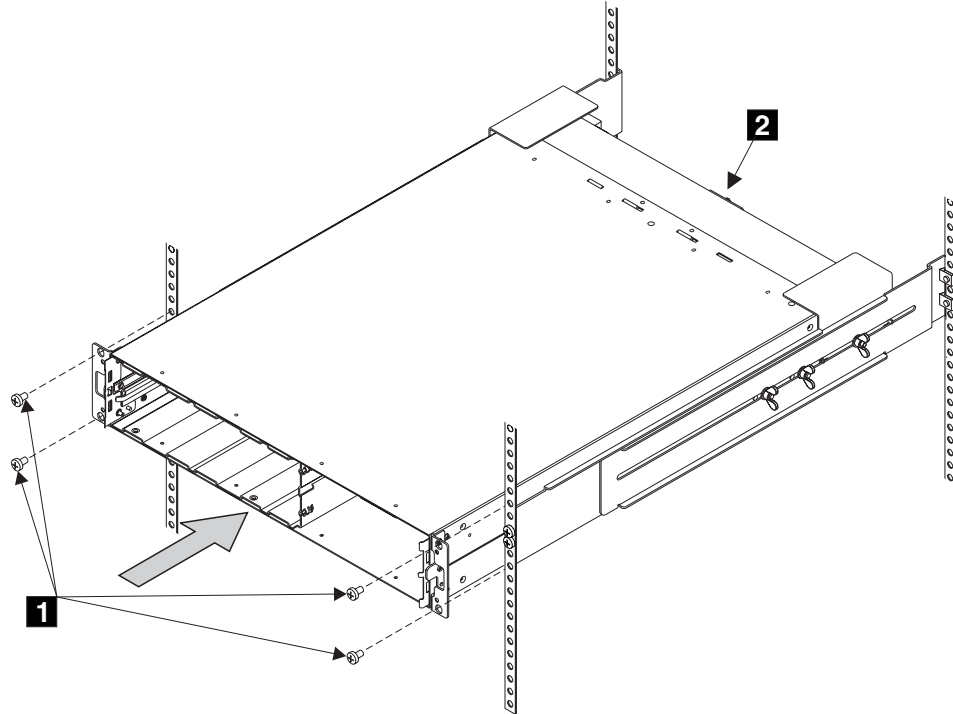

Figure 110. Installing the 2145 uninterruptible power supply into a rack
6. Install the front flathead screws (**1** in Figure 110 on page 127).